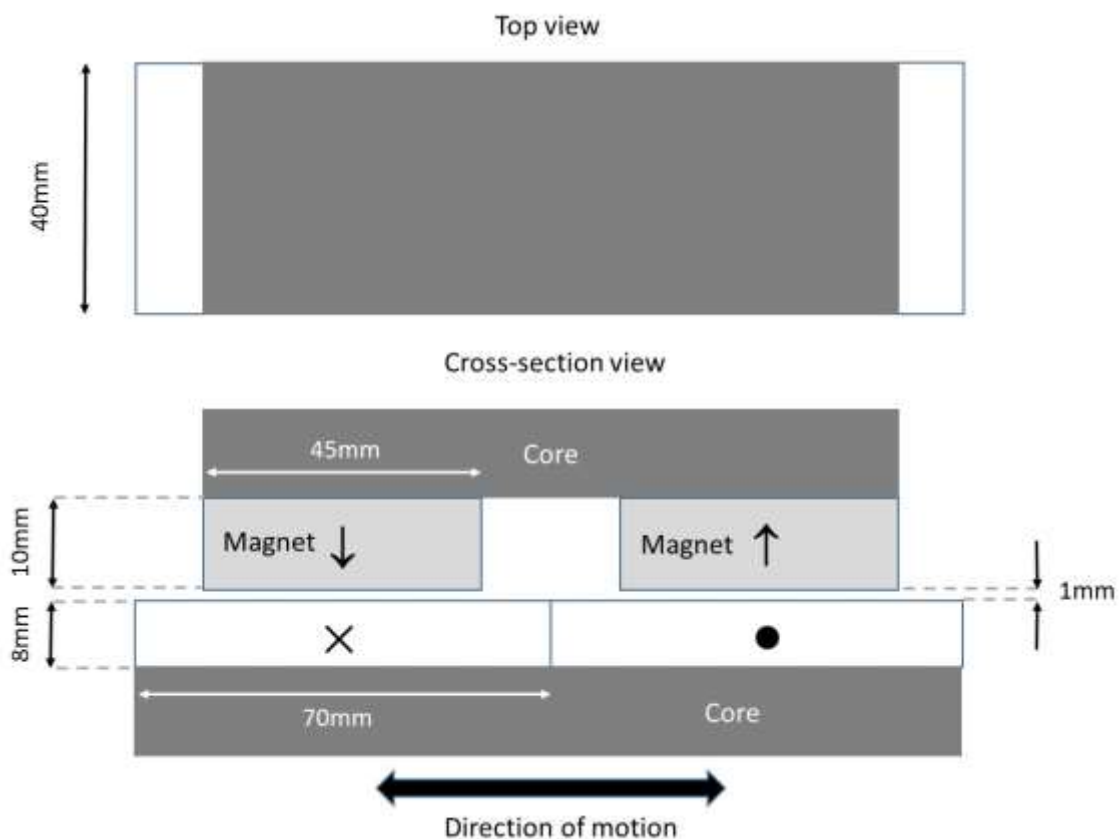
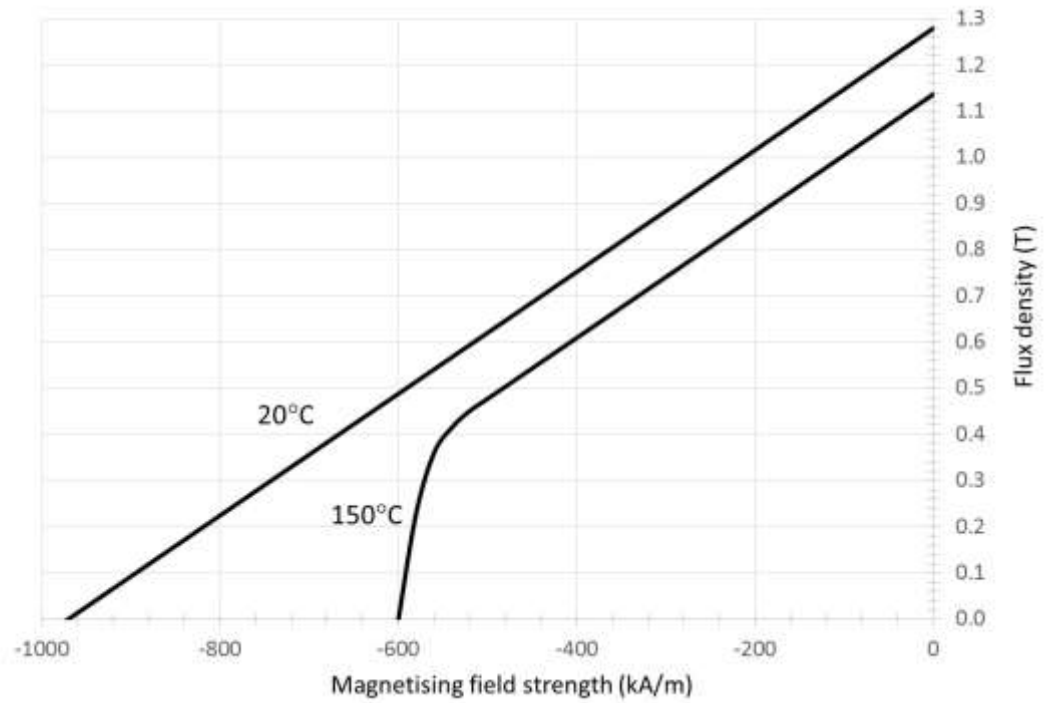

Figure 6 Schematic of linear permanent magnet actuator
Figure 7 Demagnetisation characteristics of NdFeB permanent magnets
- a. Assuming the temperature rise within the lamination is negligible, and there is no iron loss. Estimate the total copper loss which can be dissipated in the 12 slots to give a peak winding temperature rise of 80 K. (8)
- b. In some electrical machines, 1 auxiliary tooth is added in the middle of each stator slot to separate coils in order to improve fault tolerant capability. Assuming the dimensions and λ are the same as in 5.a, with the aid of a sketch, describe the main heat flow paths for removal of winding copper loss to the outside surface, and estimate the total copper loss which can be dissipated in the 12 slots to give a peak winding temperature rise of 80 K. (8)
- c. List possible ways to improve the cooling of electrical machines in order to minimize the peak winding temperature rise. (4)
6. Figure 6 shows a top view and a cross-section through a linear actuator which is equipped with NdFeB permanent magnets. The actuator has a single wound coil with the go and return conductors located as shown in Figure 6. The depth of the actuator, as shown, is 40mm. The coil has 430 series turns of circular wire with a diameter of 1mm. The demagnetisation characteristics of the permanent magnet at a series of different magnet temperatures are shown in Figure 7.
- Calculate the effective coil packing factor (2)
- Estimate from the demagnetisation characteristic a value for the relative recoil permeability of the material at 20°C, taking care to show your calculations. (2)
- Listing any assumptions that you make, calculate the average flux density in the airgap for a permanent magnet temperature of 20°C. (3)
- Listing any assumptions that you make, calculate the force constant of the actuator (i.e. the force per amp).with a permanent magnet temperature of 20°C. (3)
- Calculate the maximum coil current that can flow if irreversible demagnetisation is to be avoided with a permanent magnet temperature 150°C. Calculate the resulting force at this maximum coil current. (6)
- The actuator is driven from a 24V supply and has a coil resistance of 2.5Ω. Neglecting the influence of the electrical time constant (i.e. you may assume that steady state DC current conditions are achieved) calculate the maximum linear velocity at which the actuator can move while producing a force of 50N with a permanent magnet temperature of 150°C. (4)